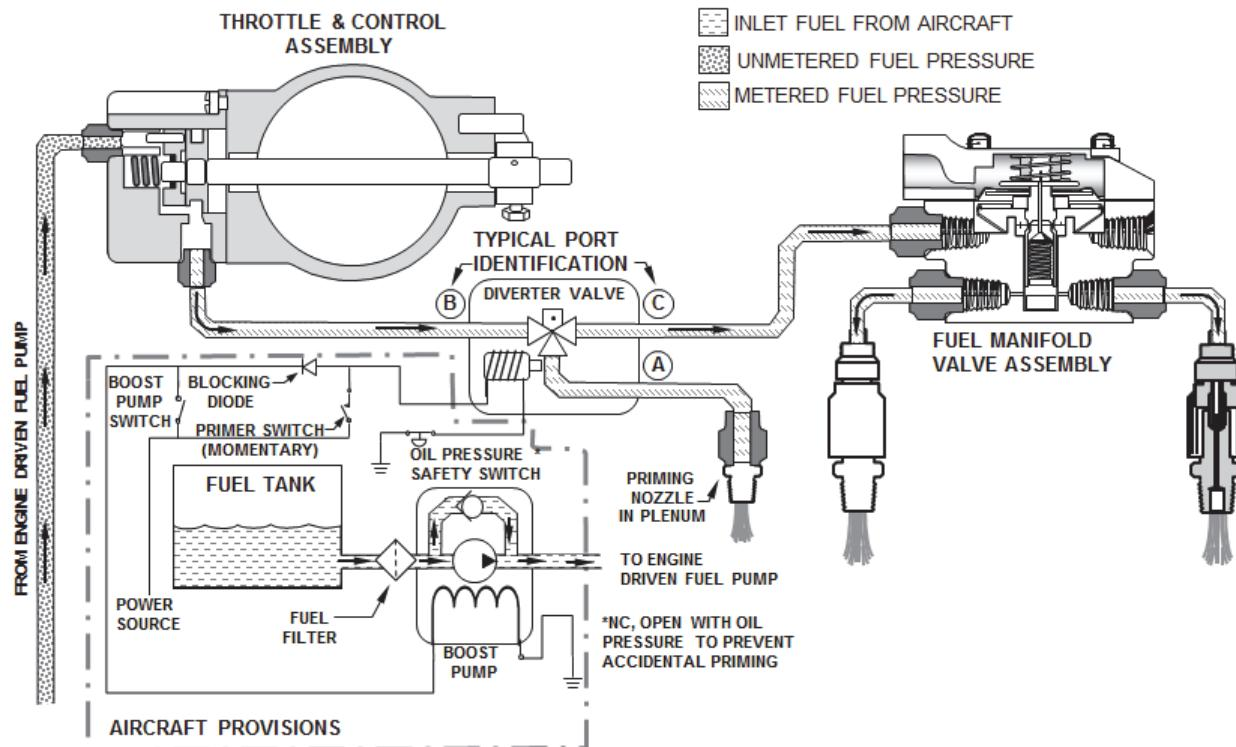
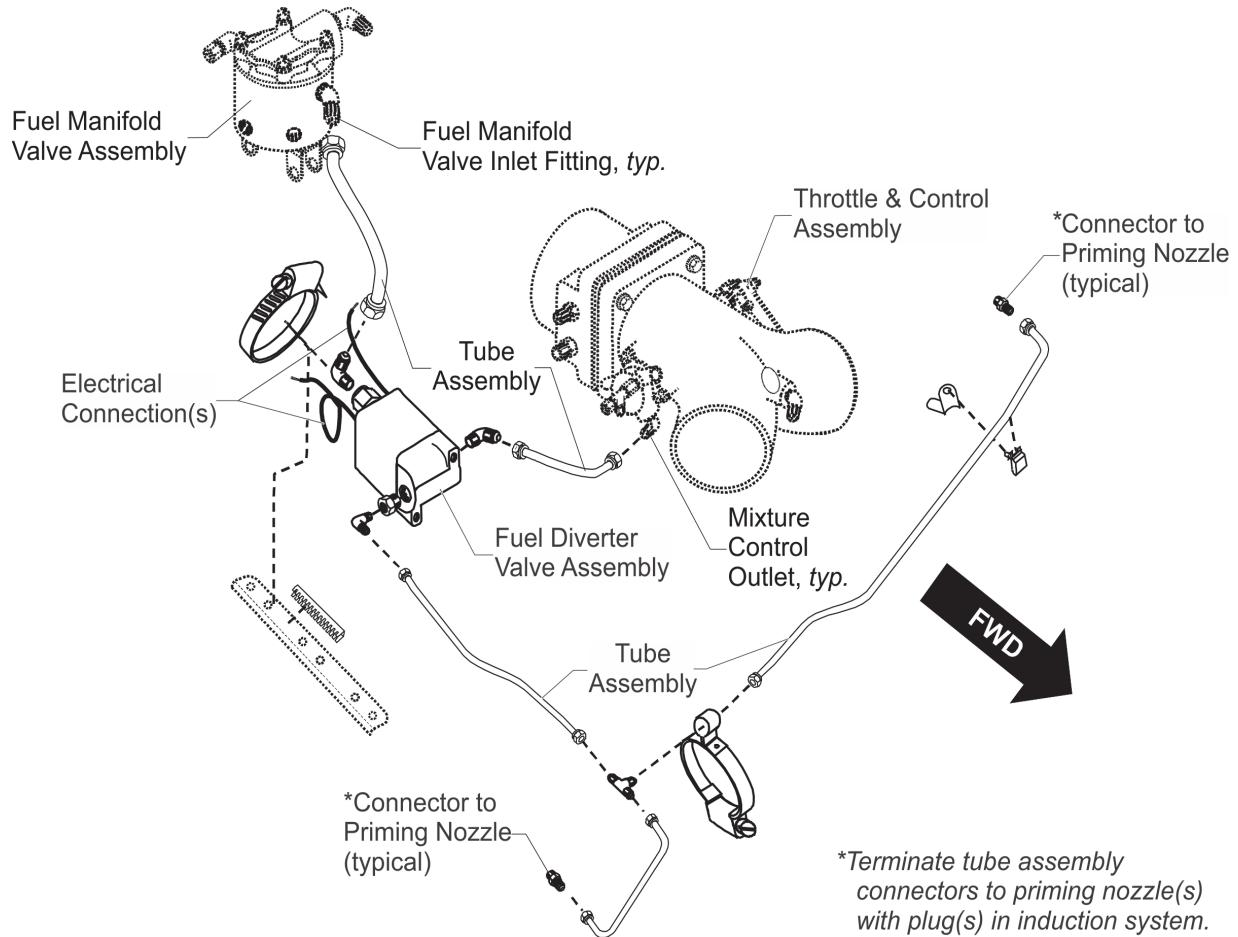
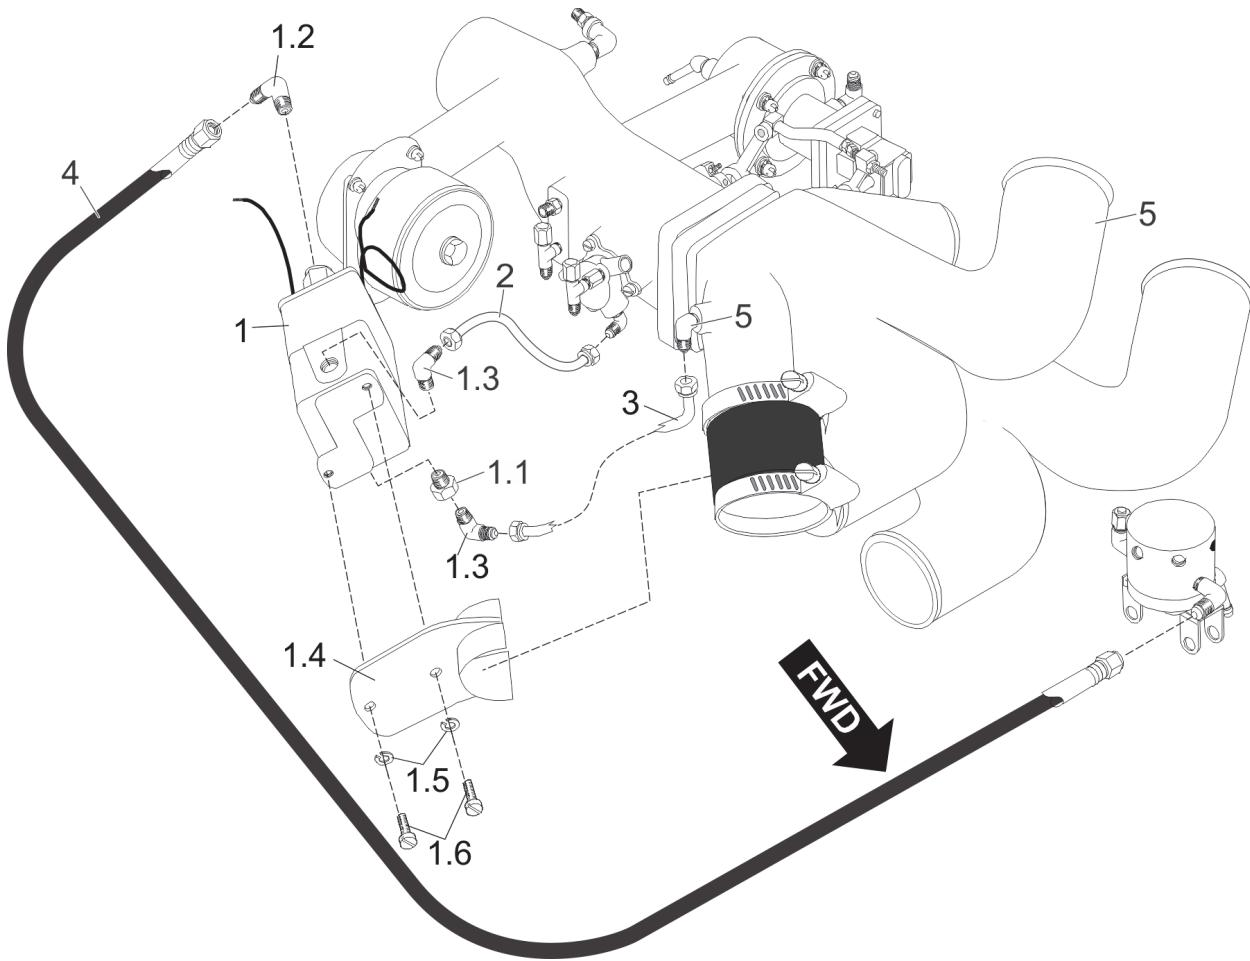
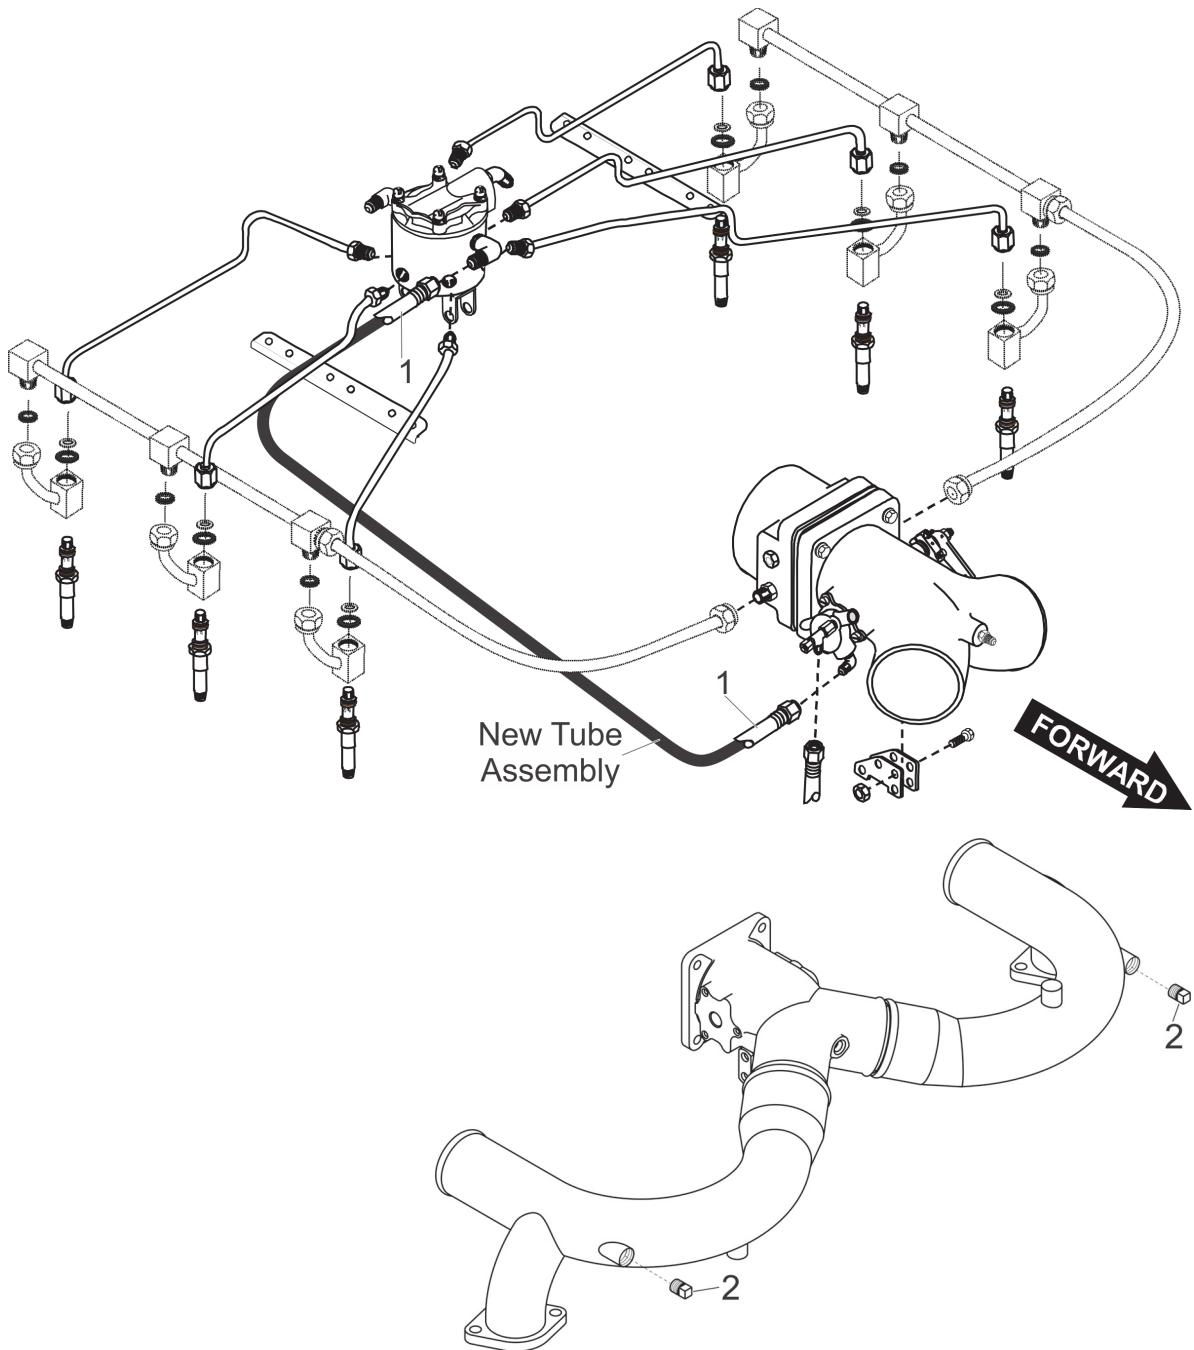

Figure 1. Fuel Diverter Valve Assembly, typical
Figure 2. Fuel Diverter Valve Assembly, TSIO-360-KB
Figure 4. Fuel Diverter Valve Assembly, TSIO-360-MB
Figure 8. Tube Installation, LTSIO-360-E, EB, KB; TSIO-360-E, EB, F, FB, GB, KB, LB
- Verify your cross-flow engine has a fuel diverter valve assembly (P/N 633862, 642199 (14V), 633862-2, or 649268 (28V as shown in Figure 1).
NOTE: Before removing the fuel diverter valve assembly or fuel manifold valve, either take a photograph or draw a sketch of the fuel injection fitting locations, positions, connections, electrical harness and connections for future reference (examples Figure 2 through Figure 4).
- Remove fuel diverter valve assembly (tubes and connectors) between the throttle and control assembly and fuel manifold valve assembly (see Figure 1, port identification B & C and Figure 2 through Figure 4, example configurations).
- Remove tube/hose assembly, as applicable, (see Figure 1, port identification A and Figure 2) between fuel diverter valve assembly and priming nozzle(s).
- Remove disconnected priming nozzle connector(s) and tube assemblies connected to induction system (location references see Figure 2 and Figure 8).
(reference Figure 8)**